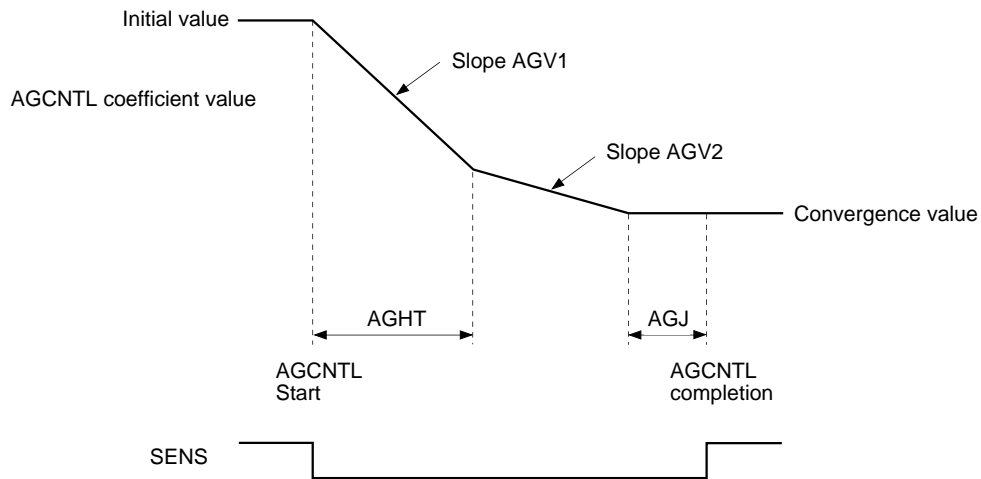

Fig. 5-5.
An example of AGCNTL coefficient transitions during AGCNTL operation with various settings is shown in Fig. 5-5.
**Note)** Fig. 5-5 shows the case where the AGCCNTL coefficient converges from the initial value to a smaller value.